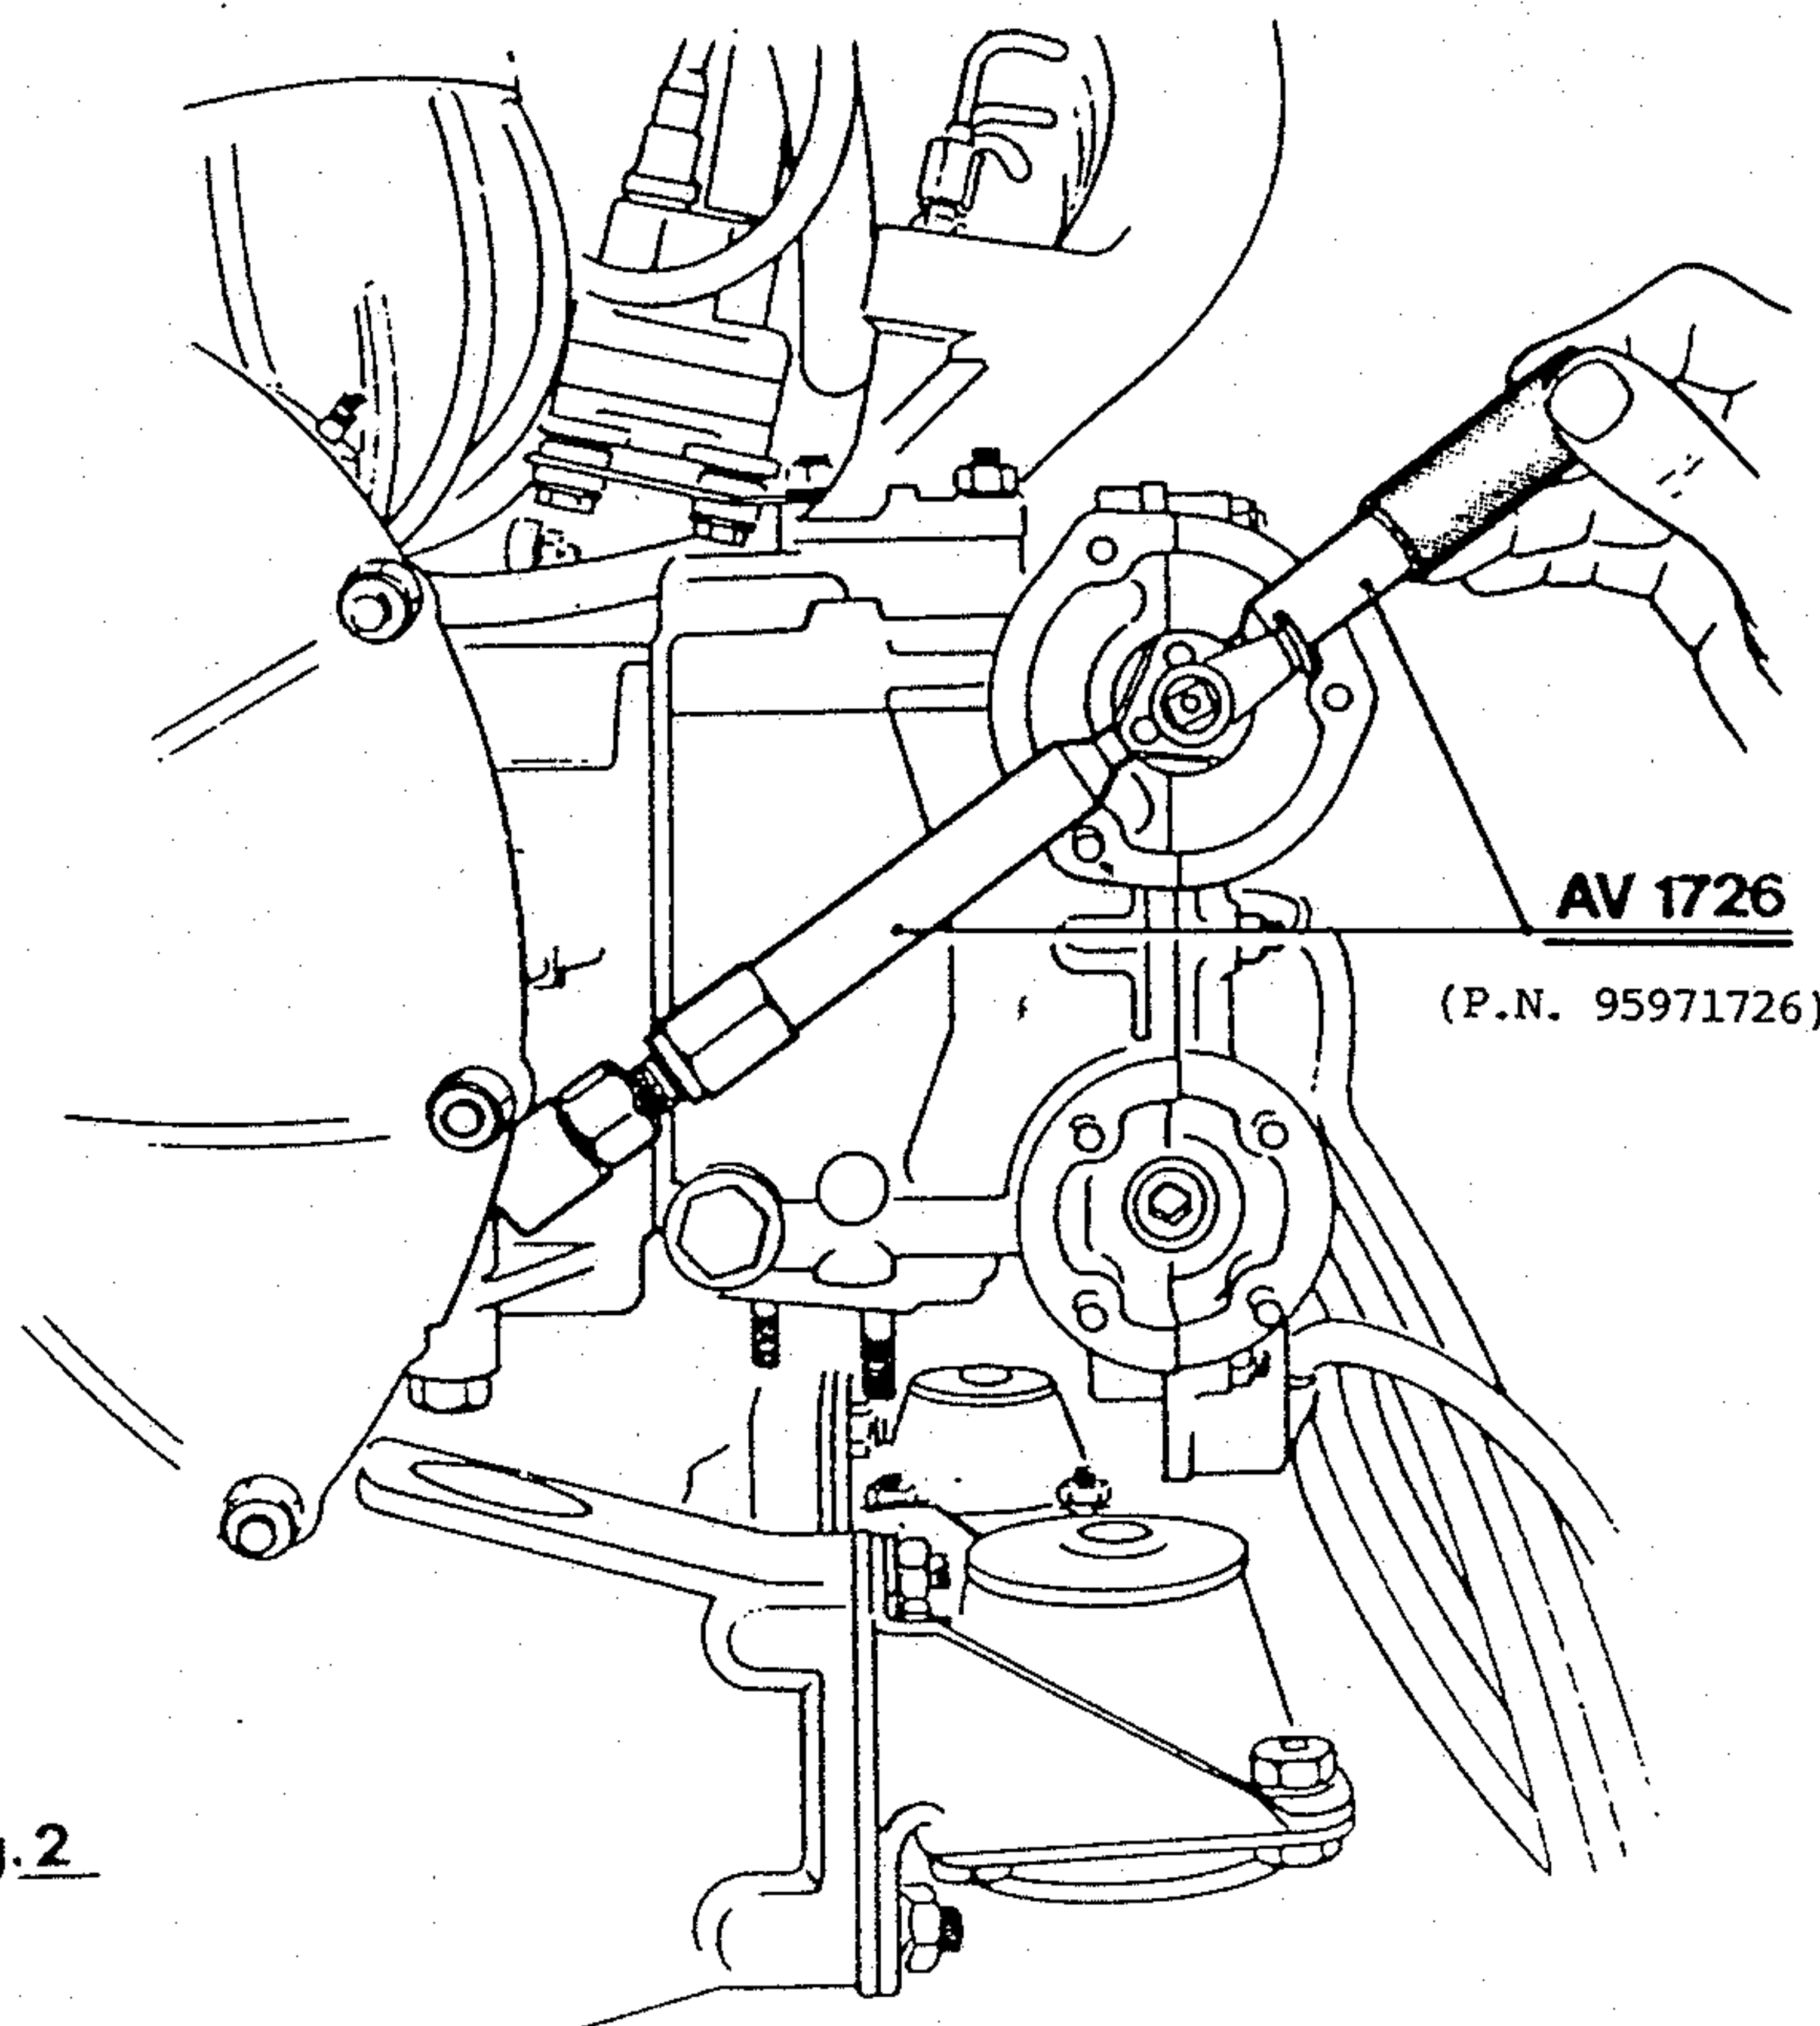

Fig. 2
- With an aluminum punch, push down the pin, then hold it in position with the special tool AV 1726 and caulk one side with the special punch (Fig. 2). Rotate for 180° the camshaft and repeat the prior operation in order to caulk also the other side of the pin.